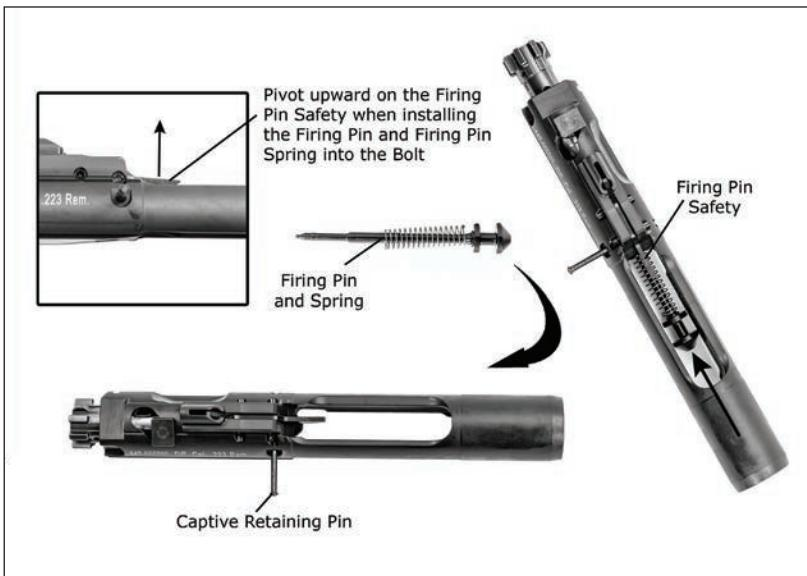

Fig. 35 – Installing the Firing Pin
c. Ensure that the captive firing pin retaining pin is drifted completely out to the left-hand side of the bolt carrier. Insert the firing pin spring onto the firing pin, pivot upwards on the spring loaded firing pin safety, and insert the firing pin and spring into the bolt carrier's firing pin channel until the firing pin reaches its limit of forward travel (Fig. 35)